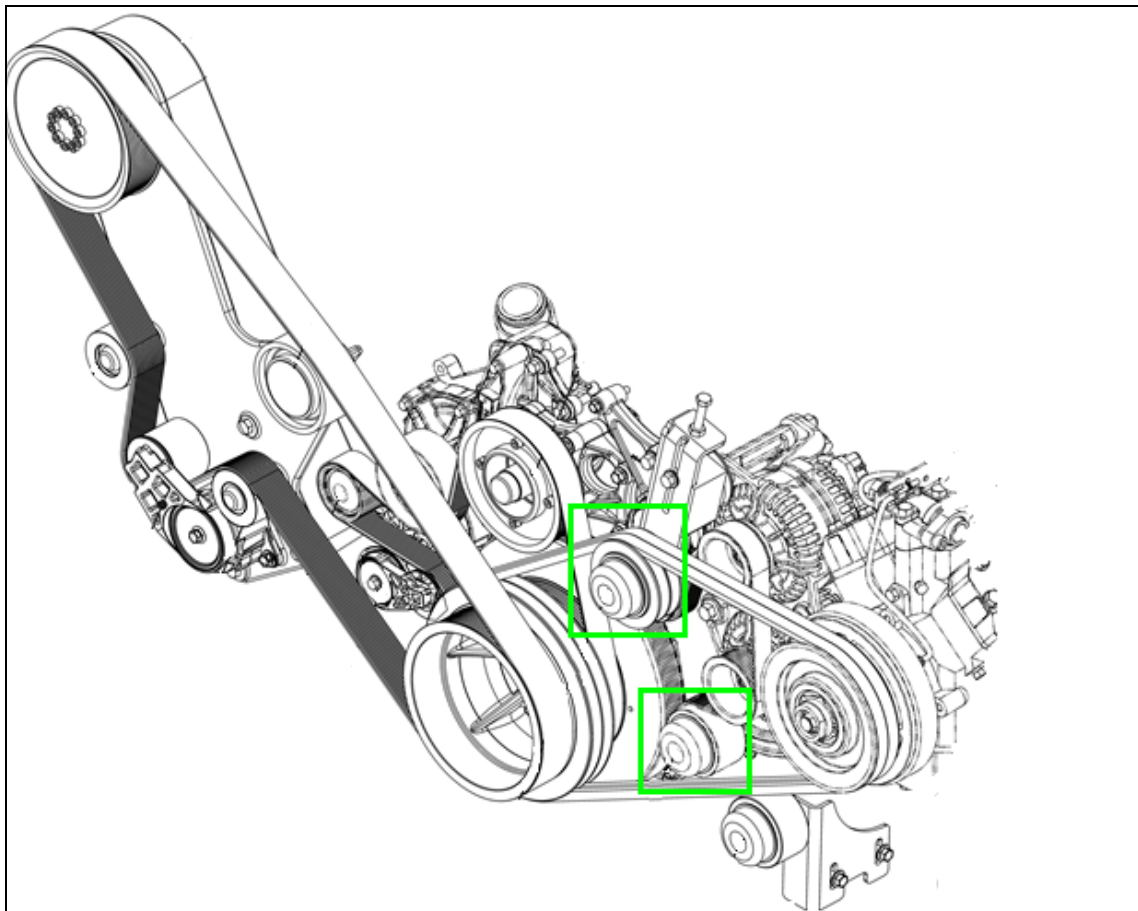

FIG.1 ALTERNATOR IDLER AND A/C TENSIONER PULLEY
1. Open the vehicle rear engine door and locate the two pulleys (A/C tensioner # 457505 and alternator idler # 457705) requiring the bearing replacement (Fig.1).
8. Using a rubber mallet, tap off the lower alternator idler pulley dust cap (lower pulley on Fig.1).